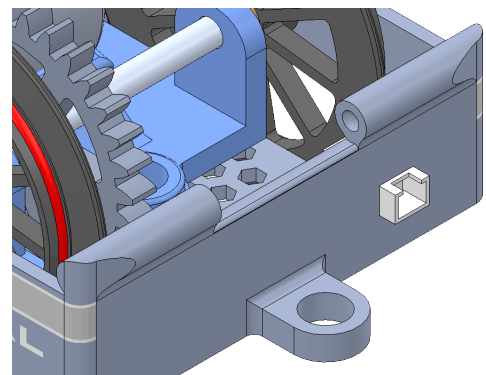

Fig. 34
Step 7. Click **Distance**  in Mate pop-up, Fig. 33. Set **distance 2** and press ENTER. The JST should extend out the rear of Chassis, Fig. 34. If positioned in opposite direction, click **Flip Dimension**  in the Mate pop-up. Click Add/Finish Mate  to add Distance mate.